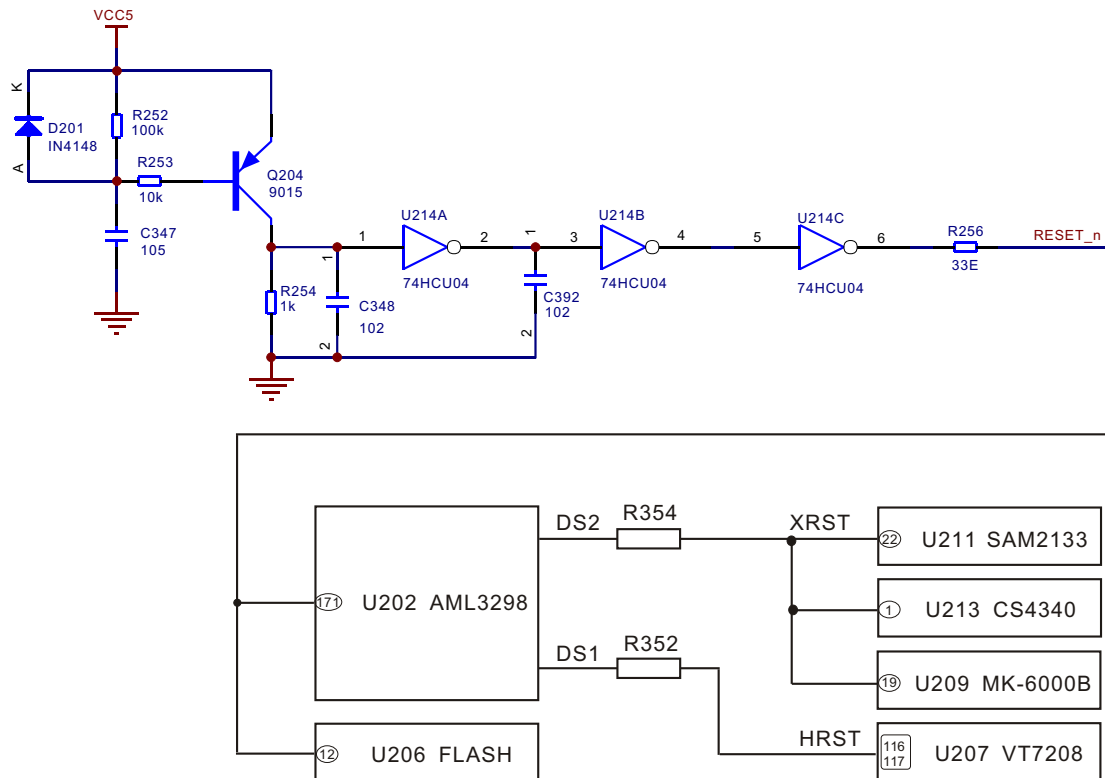

Figure 3.2.8.1 Reset circuit diagram
1. Reset circuit diagram is shown as in the following figure 3.2.8.1: